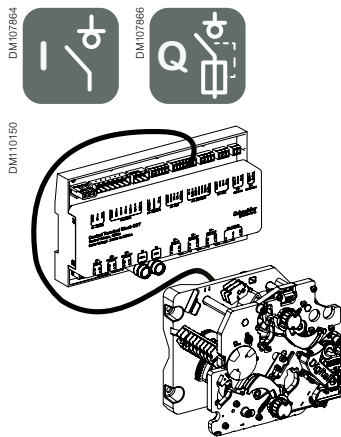

Fig. 1: models of CTB
The CTB selection (fig. 1) depends on :
- 6 models are available as per fig 1.